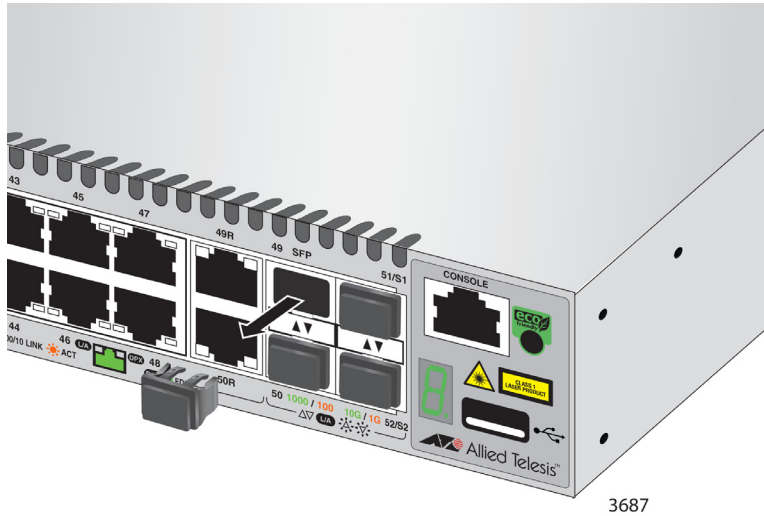

Figure 52. Removing the Dust Plug from an SFP Slot
1. Remove the dust plug from a transceiver slot on the switch. See Figure 52 on page 105.